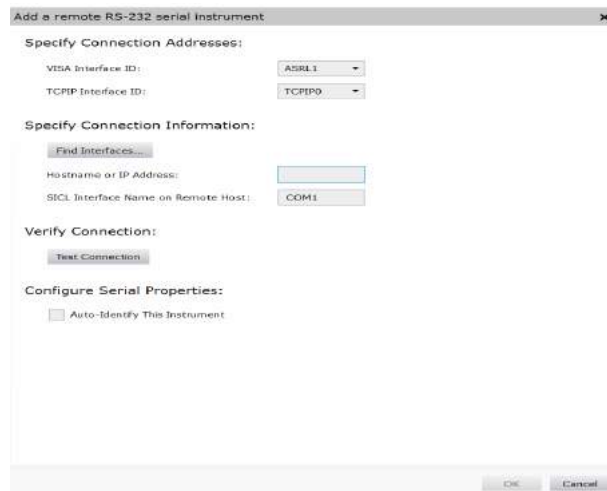

Figure 2-12 Remote RS-232 Serial instrument dialog box
- 4 The **Add a remote RS-232 serial instrument** dialog box is shown in Figure 2-12.